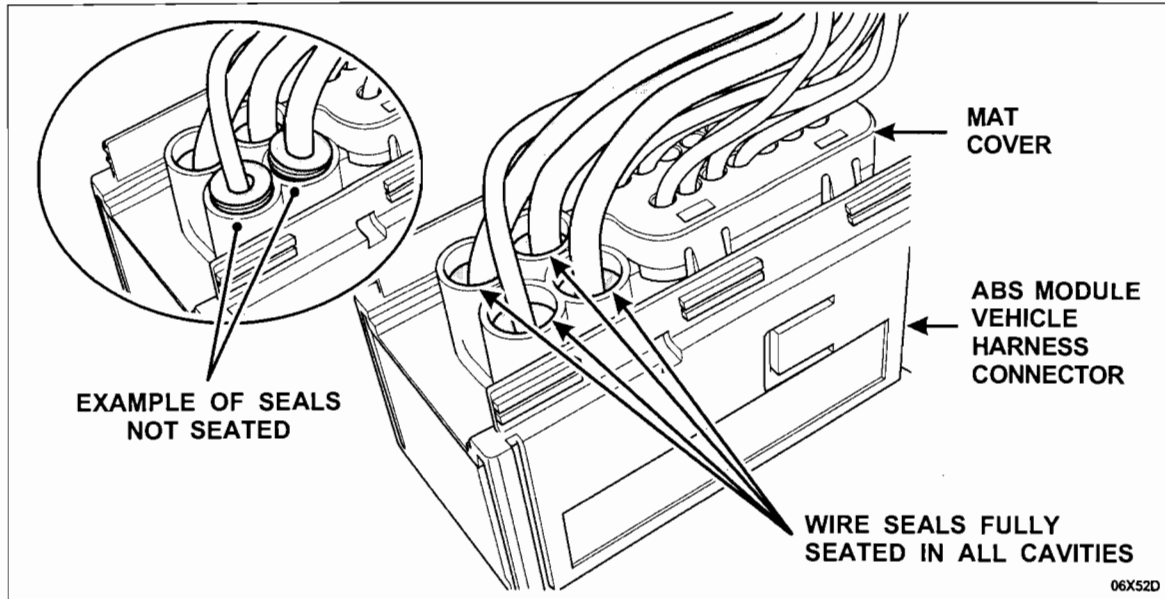

FIGURE 4
6. Verify the wire seals are present on the 4 heavier gauge wires. See Figure 4.
9. Verify all 4 wire seals are fully seated in the cavities. Each seal should sit approximately 1-2 mm (1/16 in) below the top of the round cavity. See Figure 4.